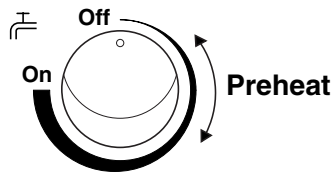

Fig. 11
8. With the control in the OFF position (Fig. 11) the pre-heat feature will not operate. Hot water will be supplied at approximately 50° C.